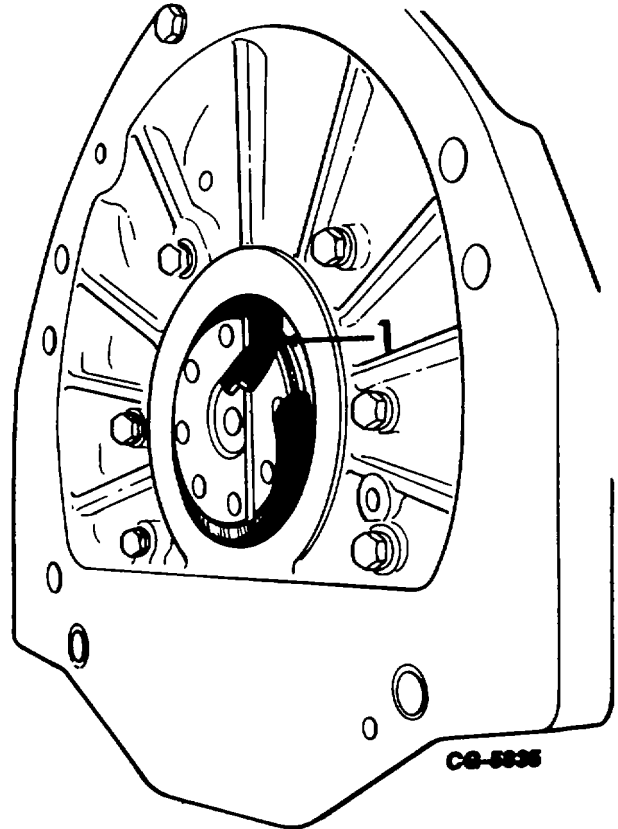

Figure 7. - Removing Oil Seal from Flywheel Housing
- a. Using a chisel, split the oil seal (1, Fig. 7), as shown.